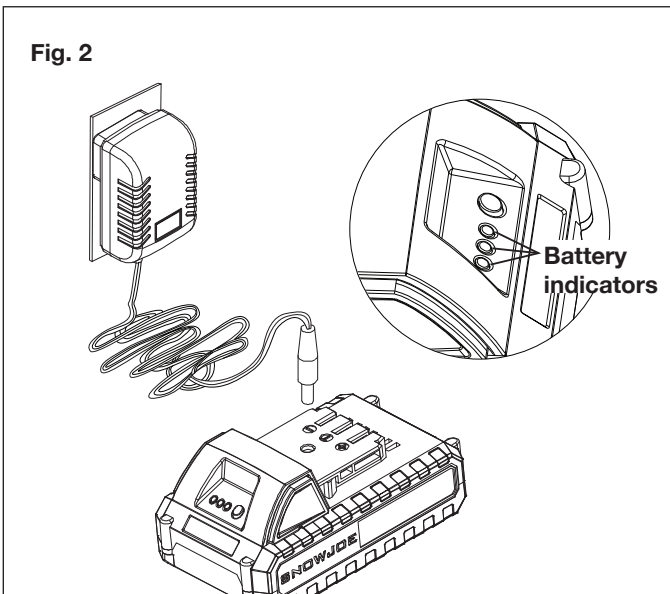

Fig. 2
2. Check that the mains voltage is the same as that marked on the rating plate of the battery charger. Then, plug the charger adapter into an appropriate AC power outlet. Connect the charger plug into the charge socket of the battery to start charging (Fig. 2).